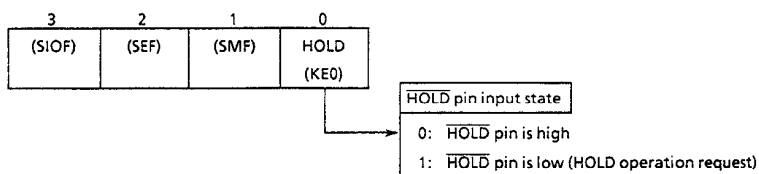

Figure 2-20. HOLD Operating Mode Command Register/Status Register
- ① The high-freq. oscillator starts.
- ② Warm-up is performed to acquire the time for stabilizing oscillation. During the warm-up, the internal operations are all stopped. One of three warm-up times can be selected by program depending on the characteristics of the oscillator used.
- ③ When the warm-up time has passed, an ordinary operation restarts from the instruction next to instruction which starts the HOLD operation. At this time, the interval timer starts from the reset state "0".
- ※ - The warm-up time is obtained by dividing the basic clock by the interval timer, so that, if the frequency at clearing the HOLD operation is unstable, the warm-up time shown in Figure 2-20 includes an error. Therefore, the warm-up time must be handled as an approximate value.